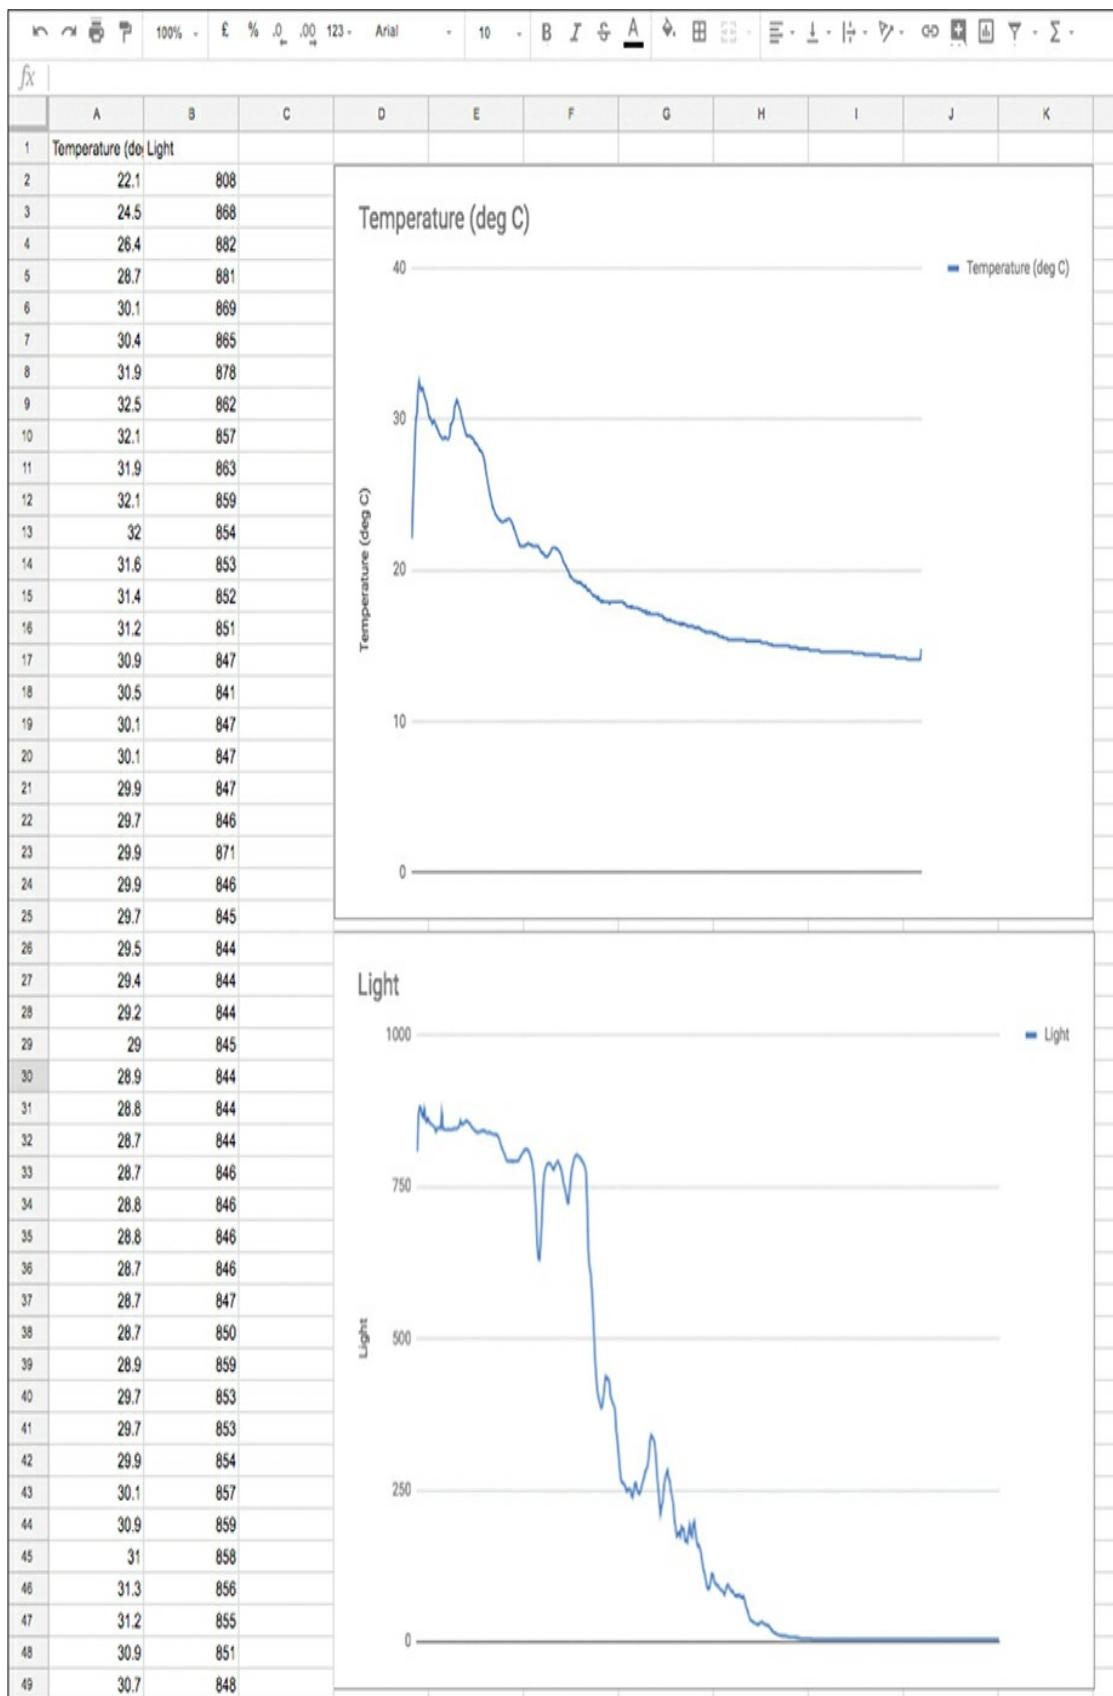

Figure 9-4: Charting temperature and light
6. To make sense of the data, you’ll probably want to import it into a spreadsheet and draw some charts like the one in Figure 9-4. See Experiment 7 in Chapter 5 for an example of importing data from the *data.txt* file into Google Sheets.
In Figure 9-4, the steep drop of the line in the light chart indicates the nightfall.